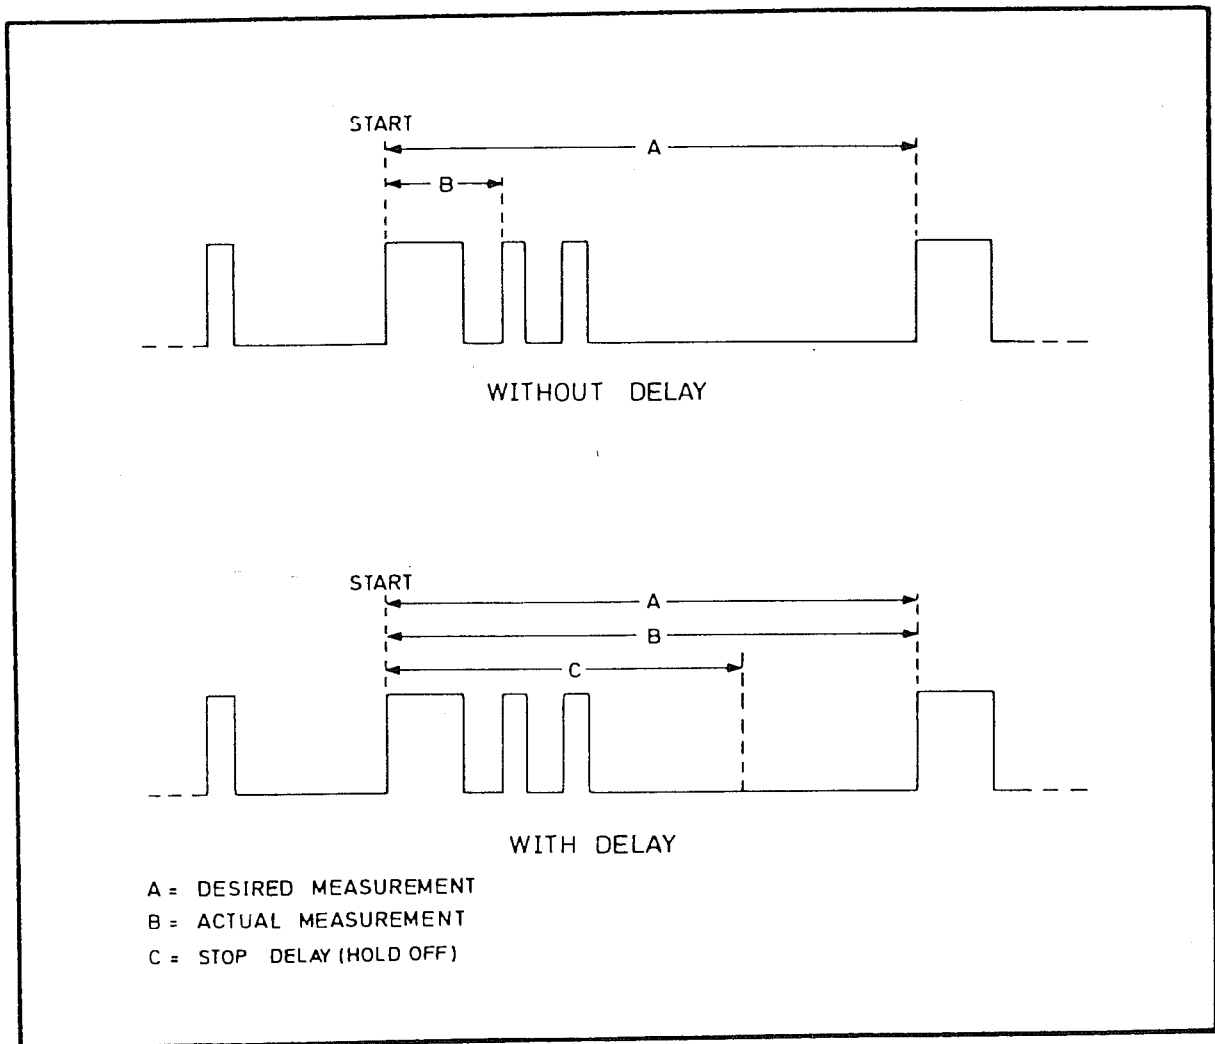

Fig 4.1 Use of Stop Circuit Delay
- 28 The delay can be used to prevent the stop circuit being triggered prematurely by spurious signals, such as those resulting from contact bounce. The principle is shown in Fig 4.1.